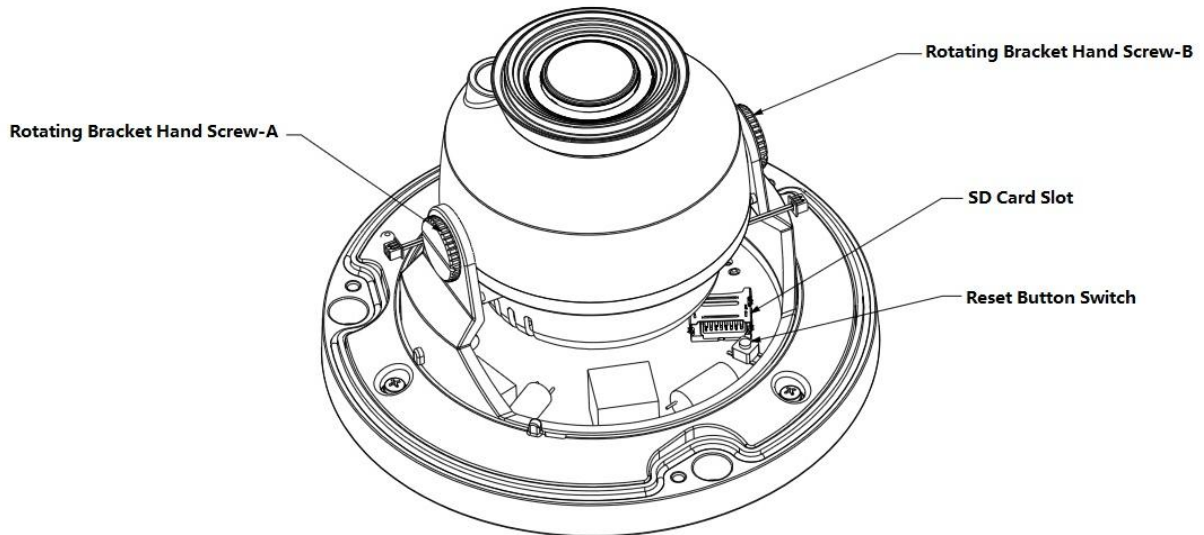
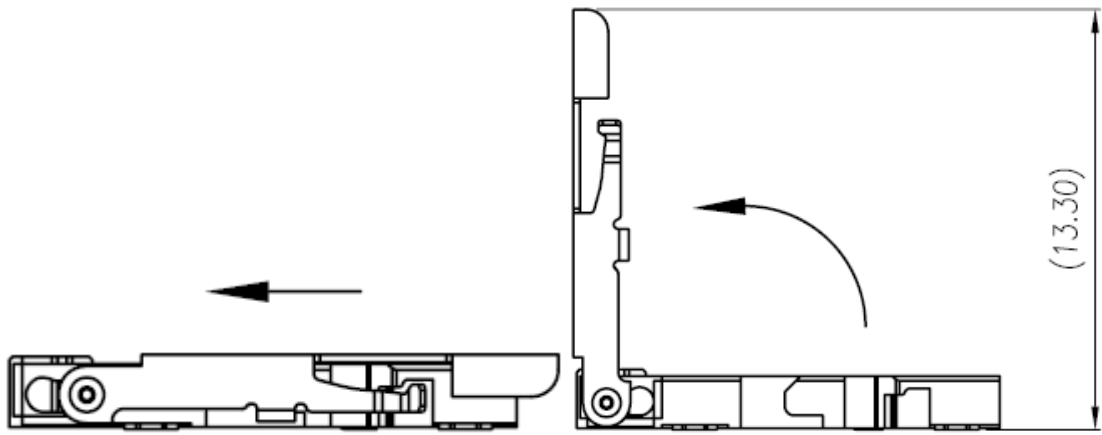

Figure 2-2
Figure 2-3 Micro SD Card installation illustration 1
Hold rotating bracket on both sides with hand, horizontally rotate bracket, adjusting lens horizontal direction to designated position. Loosen two hand screws on both sides of fixed rotating bracket. (Loosen only, do not take it down), hold the camera module body with hand, making lens rotate vertically. Adjust vertical direction of lens to appropriate angle, and fasten the M2 screw. Range of lens: vertical ($0^{\circ} \sim +75^{\circ}$), horizontal ($0^{\circ} \sim +355^{\circ}$). See Figure 2-2.
Step 1 Find the Micro SD Card slot in figure 2-2, open the Micro SD Card slot according to the direction in figure 2-3.